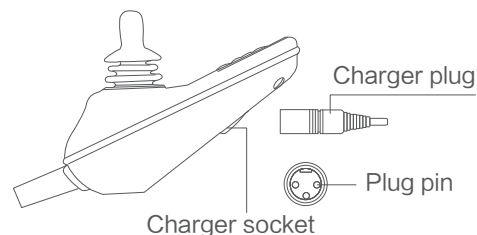

Figure 6.9
- ▶ Insert the output plug of the charger into the lower slot of the controller, as shown in Figure 6.9.